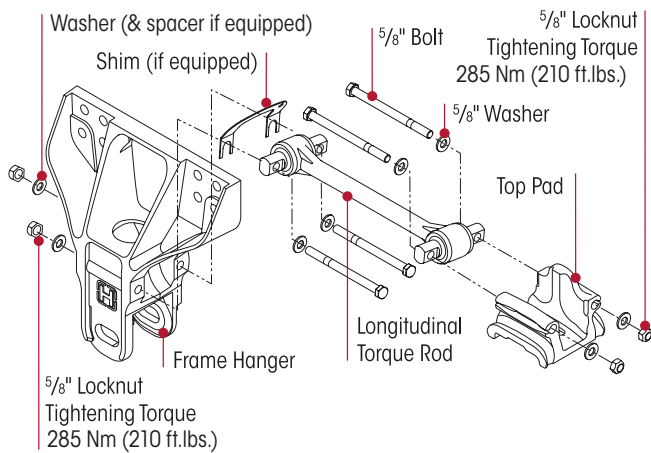
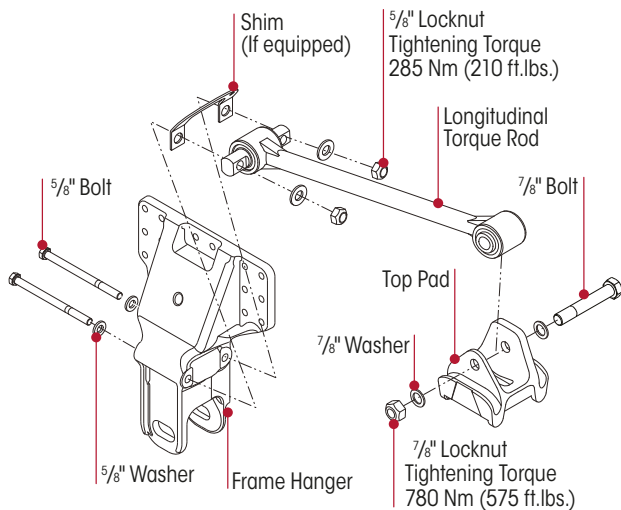

Figure 55: Longitudinal Torque Rod Components (Standard)
Figure 56: Longitudinal Torque Rod Components (Alternative)
2. Remove and discard the fasteners that connect the longitudinal torque rod to frame hanger. Carefully note the location of any shims or spacers. Refer Figure 55 and Figure 56.
2. Install the fasteners and any shims or spacers that were removed. Refer Figure 55 and Figure 56.